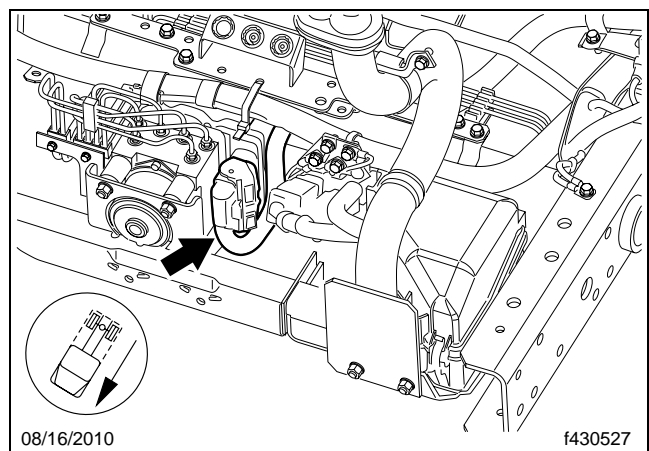

Fig. 4, Connector Location
7. Disconnect the ABS hydraulic unit electrical connector. See **Fig. 4** for the location of the connector. For instructions, see **Group 35E** of the *Sterling 360 Workshop Manual*.